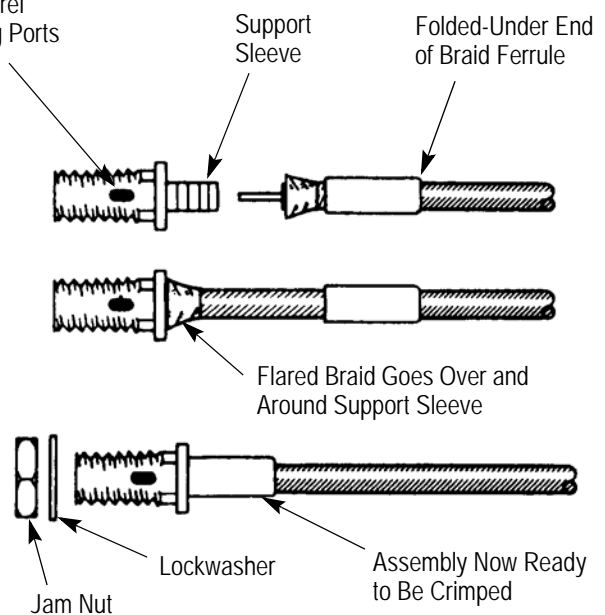

Figure 4
1. Hold ferrule in place and insert the stripped conductor into the wire barrel of connector. Turn plug or receptacle slightly to ease insertion of the stripped conductor. See Figure 4.
2. Push ferrule forward and over support sleeve of connector as far as it will go. Connector is now ready to be crimped to cable. Refer to Figure 4.